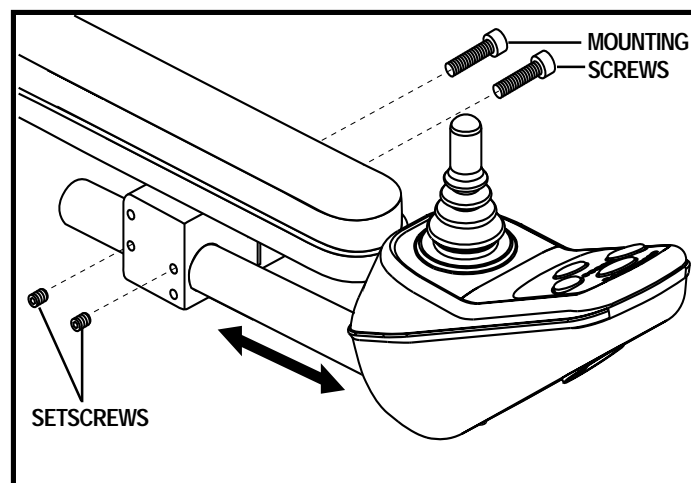

Figure 17. Controller Position Mounting Bracket
**NOTE:** If your power chair is equipped with a Specialty Seat, loosen the mounting screws in the mounting block, transfer the mounting block and controller to the opposite armrest, and tighten the mounting screws. See figure 17.